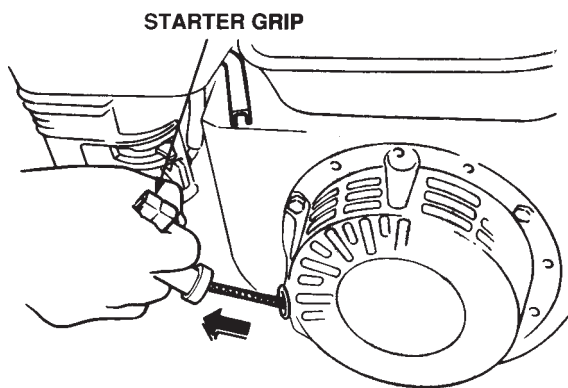

Figure 25. Starter Grip
- Grasp the starter grip (Figure 25) and slowly pull it out. The resistance becomes the hardest at a certain position, corresponding to the compression point. Pull the starter grip briskly and smoothly for starting.